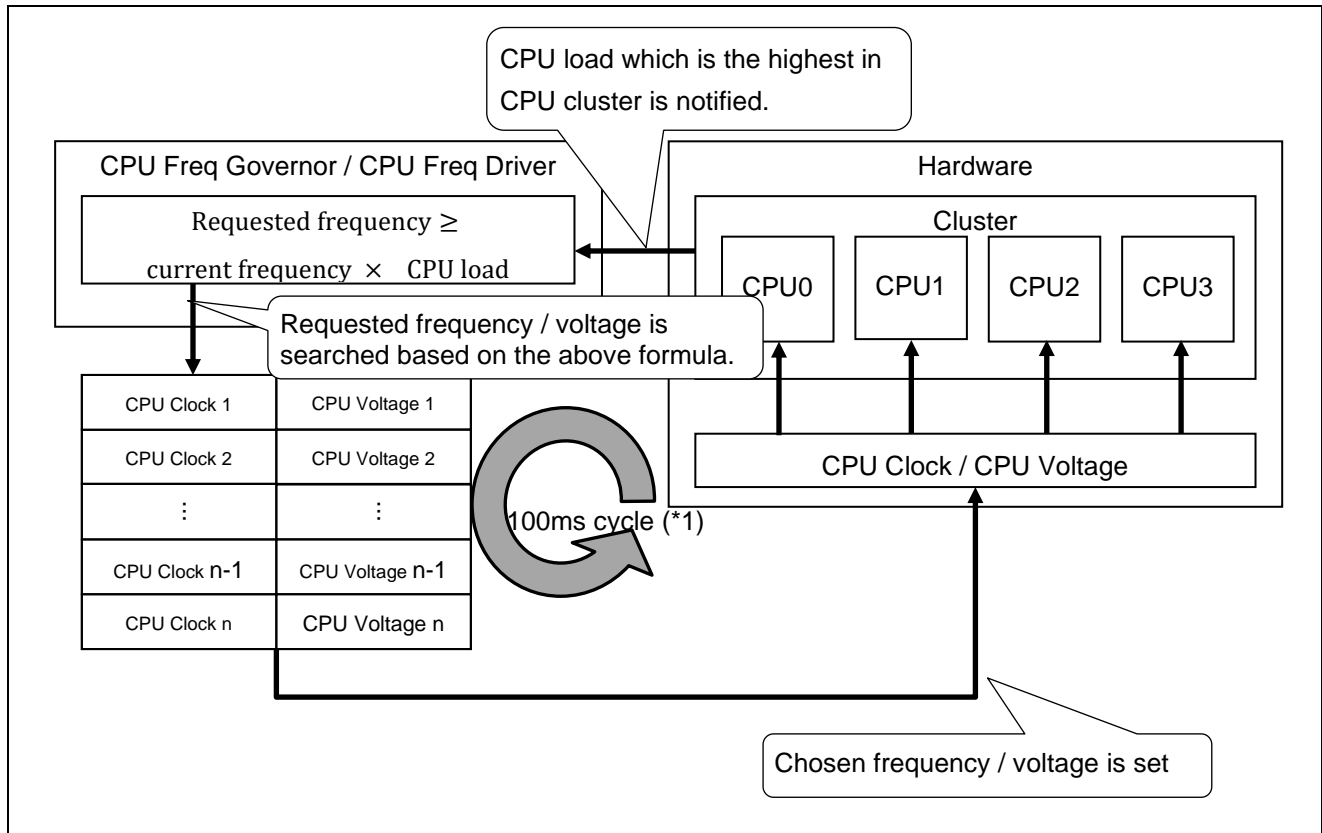

Figure 4-6 Overview flow which decides CPU frequency / voltage
- ③ CPU Freq Driver notifies the requested value of frequency to Clock Framework, notifies the requested voltage to Regulator Framework. Figure 4-6 shows overview flow which decides frequency. And, Table 4-6, Table 4-7, and Table 4-8 shows setting values of frequency and voltage which are defined by device tree.
- ④ Clock Driver changes the requested frequency by CPG control.
- ⑤ PMIC Regulator Driver notifies the requested voltage to I2C Framework (only for CA57 change.)
- ⑥ The requested voltage is changed by PMIC control via IIC-DVFS (only for CA57 change.)